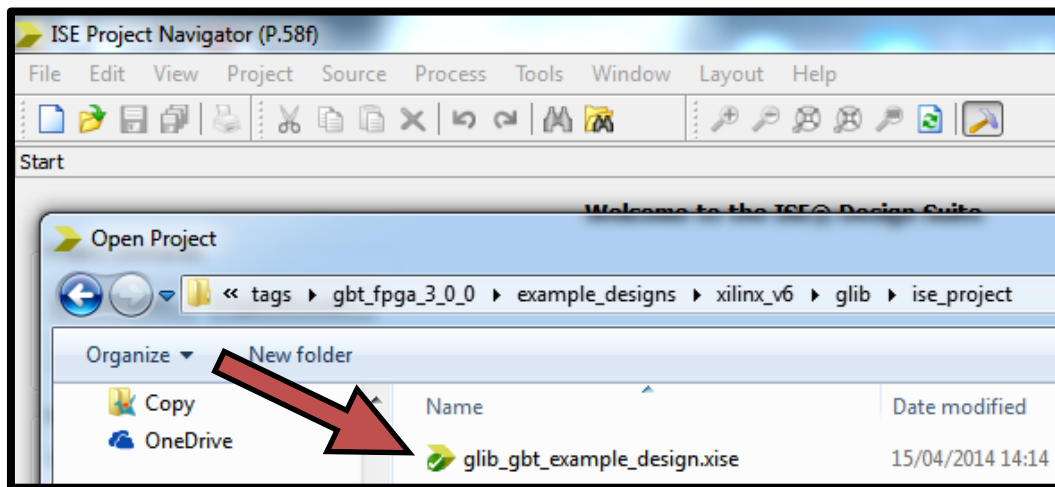

Figure 27: Folder of the ISE project file (.xise)
11. Open the folder where the ISE project file of the selected GBT-FPGA example design (in this case "glib\_gbt\_example\_design.xise") is stored and double click on it for opening the project in ISE (if it is the first time that you open the GBT-FPGA example design, the folder only contains the .xise file) (see Figure 27).